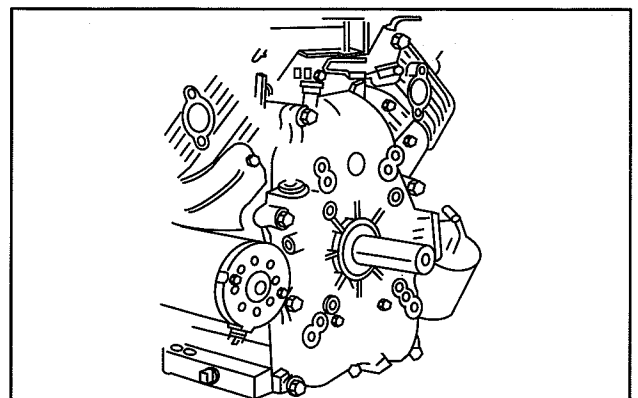

Fig. 22 – Remove Crankcase Cover
5. Remove crankcase cover or sump, Fig. 22.